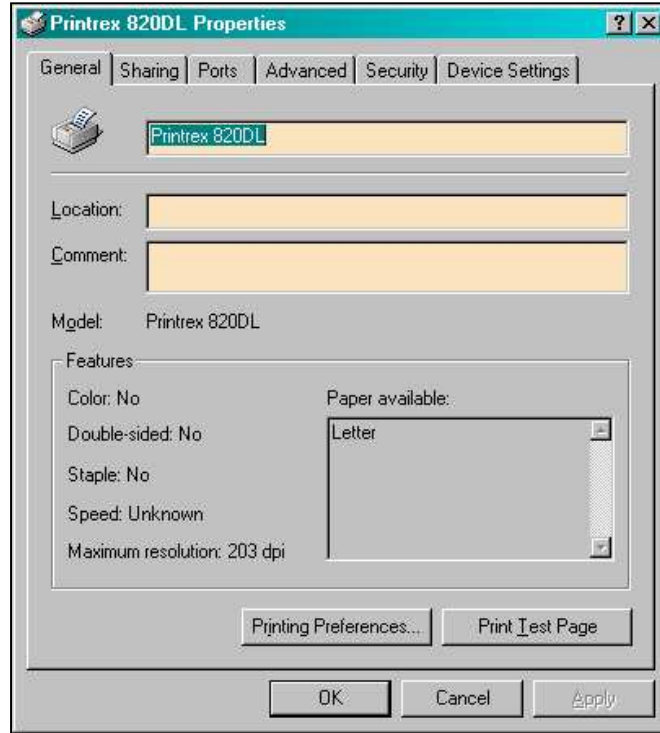

Figure 16
1. In the Printers folder, right-click on the printer icon, and select Properties. The dialog of Figure 16 will appear:
9. To test the update, click on the 'General' tab of the Properties dialog (see Figure 16), and click 'Print Test Page'.